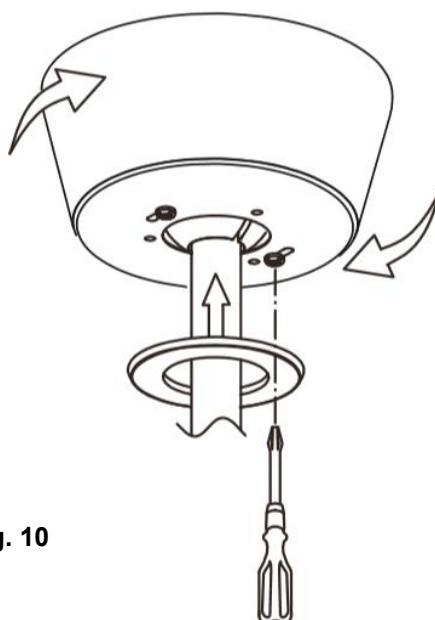

Fig. 10
INSTALLATION OF THE CANOPY (Fig. 10)
- To replace a new battery, Press the top of the battery compartment cover and loosen the screw in the same time further to remove the battery compartment cover (Fig. 10 b).